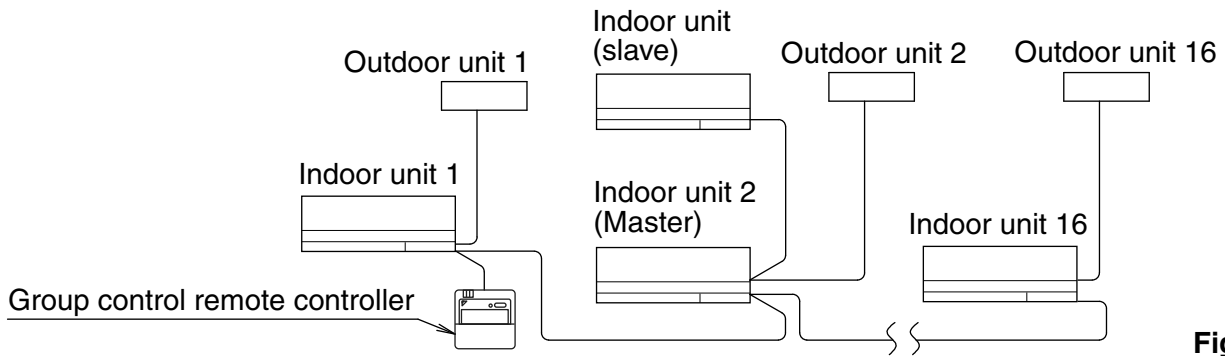

Fig. 27
- When using as a pair unit or as a master unit for simultaneous multiple unit operation, you may carry out simultaneous start/stop (group) control up to 16 units with the remote controller. **(Refer to Fig. 27)**